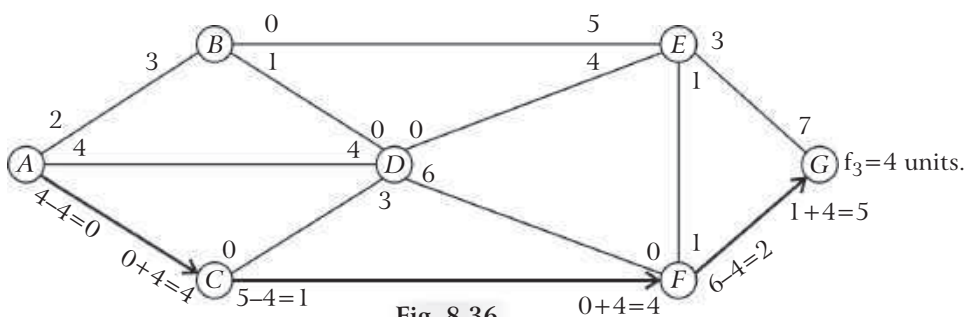

Fig. 8.36
Step 5: Now consider the route $A - C - F - G$ (see fig. 8.36). Then proceeding as in step 2 and 3, we get the following network (residue graph) fig. 8.36 and max. flow in this route $f_3 = 4$ units. Here arc AC is the bottleneck arc.